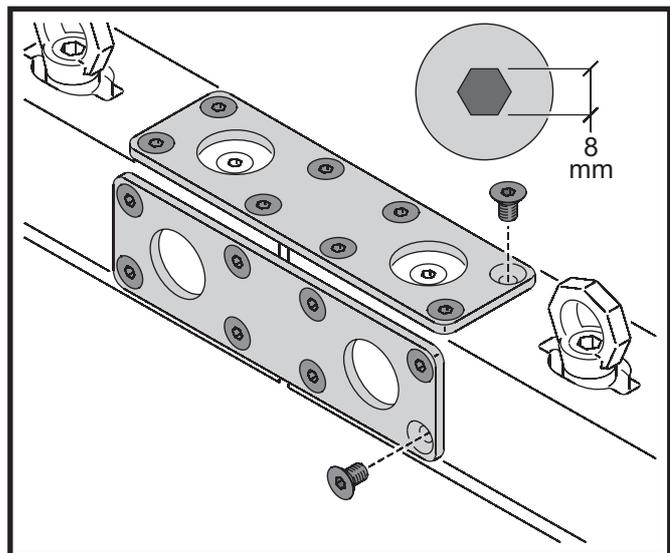

Figure 6: Joining Plates for Header Connection Brackets
1. See Figure 6. Fasten Double or Triple Header to each other using two Joining Plates, one on the top and one on the front surfaces of the Headers, securing each plate with eight of the 8 mm Allen M12 bolts supplied with each Header (i.e. sixteen bolts in total). Do not use any other bolts than the ones supplied by Martin for this purpose.